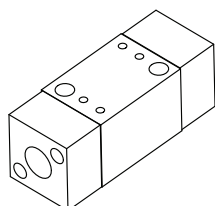

Fig. 4
- 11.4 When installing pump sleeve (56) into lower body (54), sleeve should be placed into lower body as shown in **Fig. 4**. When properly installed moulded pin protruding from pump sleeve will fit into mating hole in gasket (53) and gasket can then be installed properly over pins, (66). If sleeve is not properly aligned as shown, air brake cannot be assembled properly.